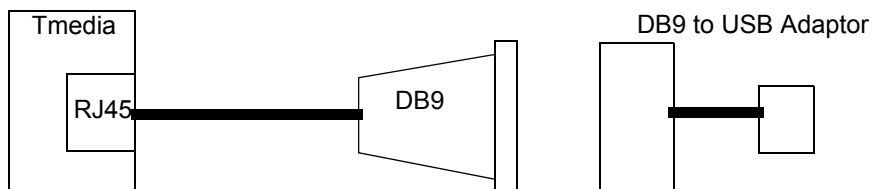

Figure 3.2 Conceptual View of a Serial Connection from the Tmedia VoIP Gateway to a Computer
2. If your computer's serial port features a DB9 connector, use the DB9 to RJ-45 adapter supplied with your Tmedia VoIP gateway. If your computer's serial port features a USB connector, you will need to provide a USB to DB9 adaptor. Refer to figure 3.2 on page 56.